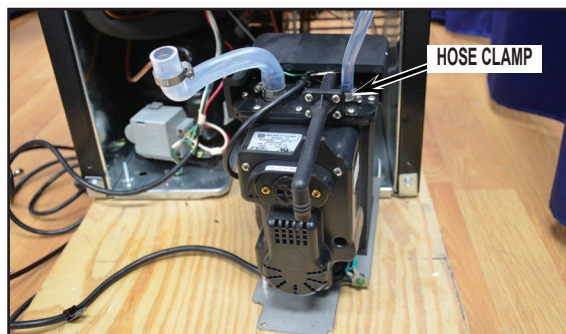

FIGURE 31
5. Pull the condensate pump out of the machine compartment. Remove the vent tube hose clamp. See *Figure 31*.